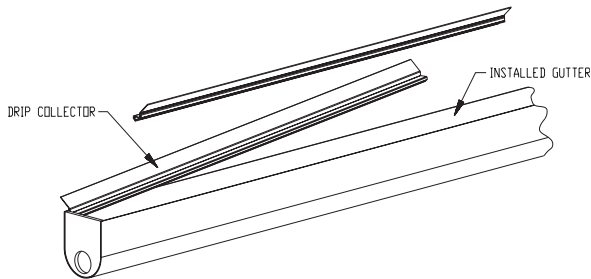

Figure 7
11. Install the drip collector as shown in Figure 7 by